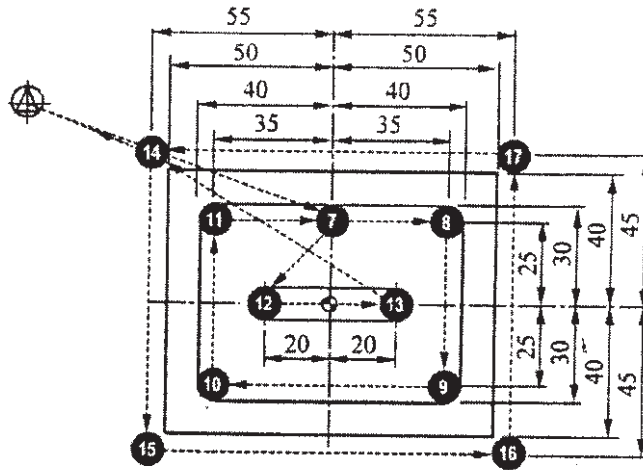

Fig. 6
- b) Write a CNC program using G and M codes for drilling and milling the component as shown in the fig.4, drill path is shown in fig.5 and milling cutter path in fig.6. A milling cutter of 10mm diameter and drill of 8mm diameter is available. [10]